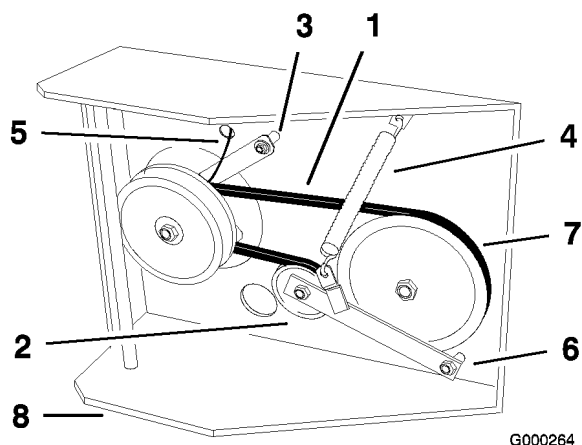

Figure 50
6. Disconnect clutch retainer from the engine deck (Figure 50).
7. Unhook tension spring from side of frame (Figure 50).
10. Torque pivot bolt to 35-40 ft-lb (47-54 N·m). Install tension spring between idler arm and frame bracket (Figure 50).
11. Install clutch retainer to the engine deck (Figure 50).